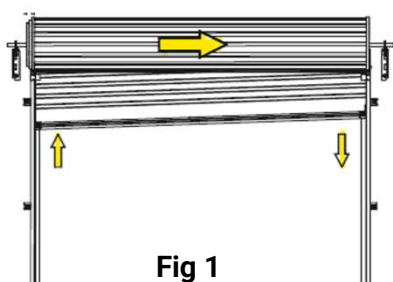

Fig 1
- If the door rolls up crooked with the RIGHT HAND SIDE higher than the left, move the axle 20 - 40mm to the RIGHT, as per Fig 1 above.